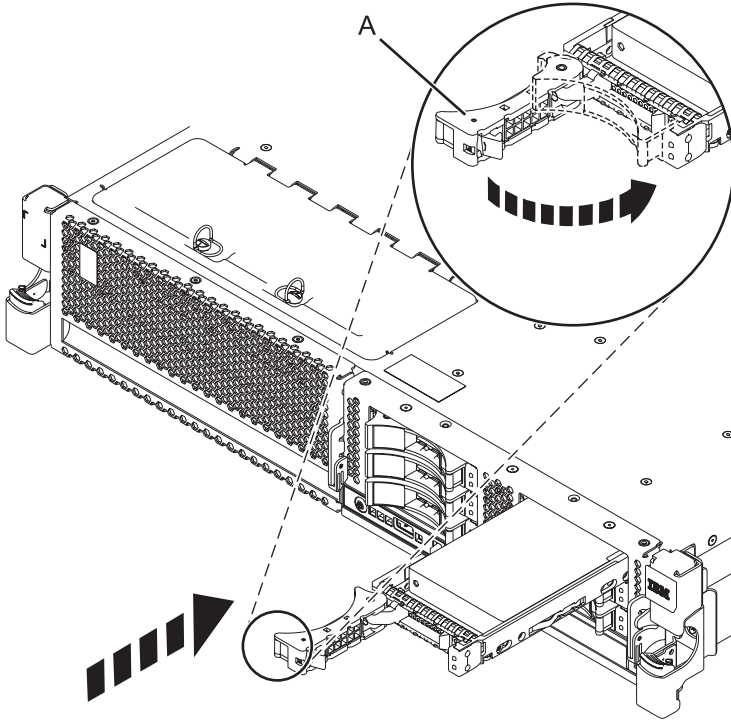

Figure 19. Installing a disk drive in the system
5. When the identify LED flashes, slide the drive all the way into the system, and push the drive handle (A) in until it locks, as shown in Figure 19 on page 32.